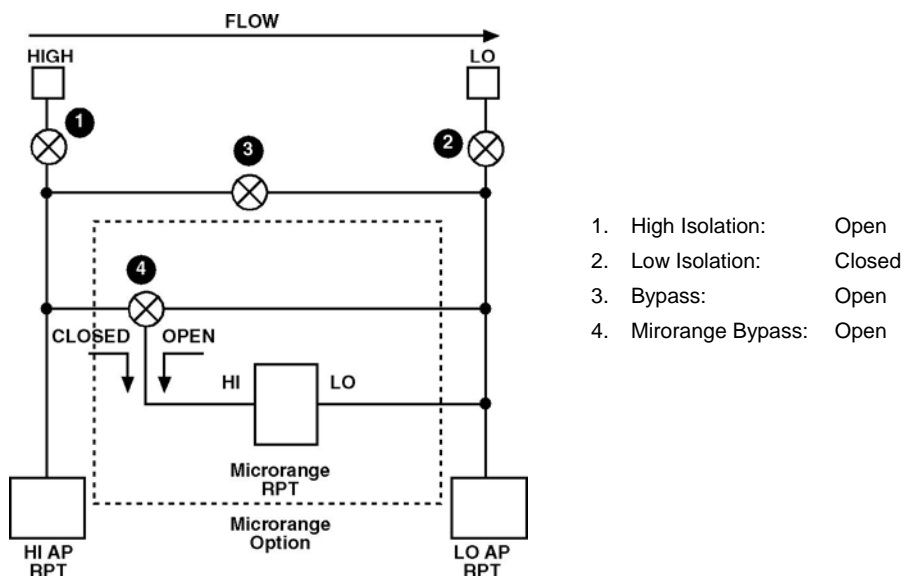

Figure 14. molbox RFM
- ❶ Set the molbox RFM on a stable surface near the calibration standard at a height as close as possible to the calibration standard's reference height. Consider the connections that need to be made to the molbox RFM rear panel pressure quick connectors and access to the front panel display and keypad.
- ❷ Connect the calibration standard output to the molbox RFM rear panel UP (HI) port. In the run calibration mode (see Section 5.2.4.1), both absolute RPTs are connected to the UP (HI) port and isolated from the DOWN (LO) port (see **Figure 14**). Use one of the quick connector stems (**DHI P/N 101889**, equivalent to Swagelok SS-QM2-S-200) supplied with the molbox RFM accessories to make the connection. The fitting on the quick connector stem that must be mated to is a compression type for 1/8 in. tube.
If the selection was <1upstrm> or <2dnstrm>, molbox RFM's internal valves operate to connect both absolute RPTs to the upstream pressure port (see **Figure 14**).